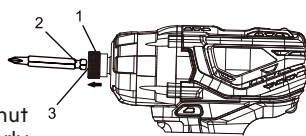

Fig. 4
1. Pull outward on the quick release chuck (1) (Fig. 4).
2. Insert the grooved end of the impact driver bit holder (2) into the chuck (3) of the tool.
1. Select the correct screwdriver bit for the screw being driven and install it in the collet (Fig. 4).